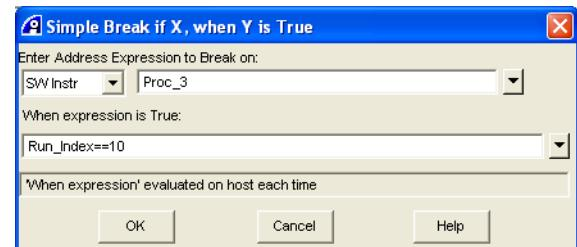

Figure 12-16 Simple Break if X, when Y is True dialog box
1. Select **Debug** → **Breakpoints** → **Conditional** → **Break if X, when Y is True...** from the Code window main menu. The Simple Break if X, N times dialog box is displayed. The Simple Break if X, when Y is True dialog box is displayed. Figure 12-16 shows an example: